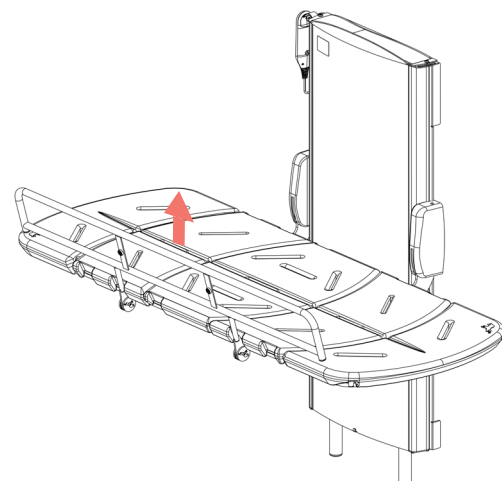

Fig 6.5c
- Once upright, the guard will be able to drop down into its location and lock into place. (Fig 6.5c)